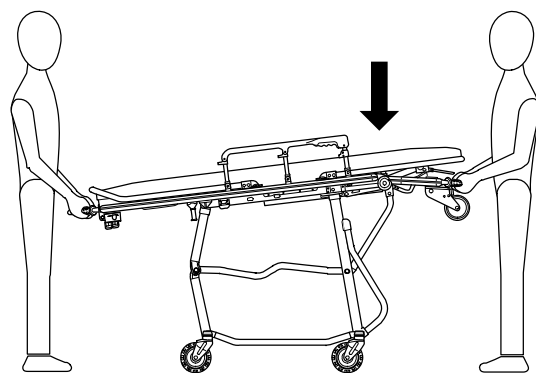

Figure 18 - Lowering Cot to Folded Position
1. To lower the cot from its Loading position to its Folded position, two operators stand at opposite ends of the cot and grasp the litter frame with palms facing up (as shown in Figure 18).